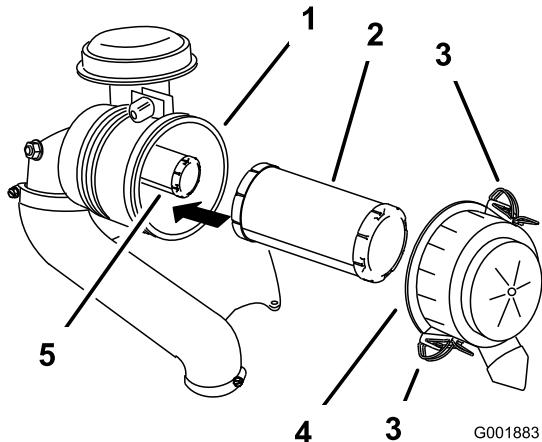

Figure 35
3. Release the latches on the air cleaner and pull the air cleaner cover off the air cleaner body (Figure 35).
5. Gently slide the primary filter out of the air cleaner body (Figure 35).
2. If the safety filter is being replaced, carefully slide it into the filter body (Figure 35).
3. Carefully slide the primary filter over the safety filter (Figure 35).
4. Install the air cleaner cover with the side indicated as **up** facing upward and secure the latches (Figure 35).